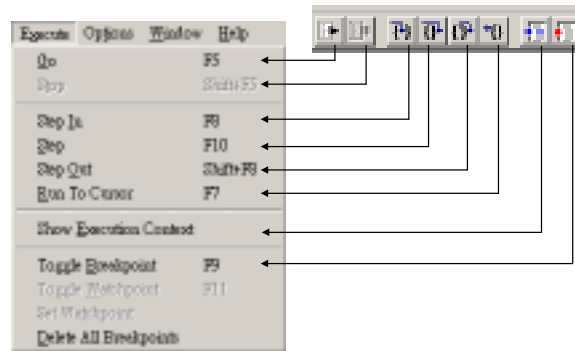

Figure 12. Execute Menu and its corresponding Toolbar.
6. Press **F10**. This is equivalent to selecting **Step** from the **Execute menu** (Figure 12). The program executes a single instruction and stops. Any values that have changed in the **Variables processor view** are displayed in red.
4. Press **F10**. This is equivalent to selecting Step from the Execute menu/toolbar (Figure 12). The program executes a single instruction and stops. Any values that have changed in the Registers processor view are displayed in red.